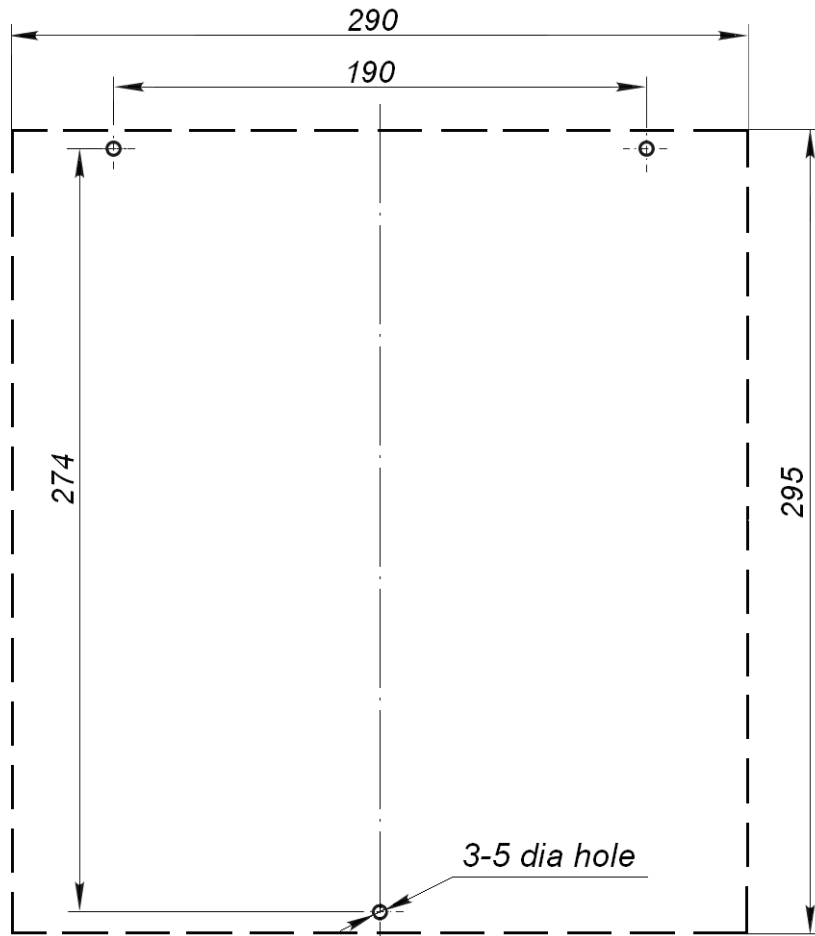

Figure 9. Hole pattern for the CU mounting
5. Take the swing panel (3) out of the transportation box. Mount the swing panel into the coupling fittings (14) on the rotary post (1). Tighten the mounting screws through the coupling fittings' holes with the S5 hex-nut wrench. Check the swing panel (3) to be properly fixed.
6. Check the rotation of the swing panel. To do so unlock the swing gate with the mechanical release key (7) (see Section 10.1). The swing panel should be able to turn by hand easily in either direction. Put the swing gate into a reset position and lock it with the key after the check.
7. Mark out the holes for wall mounting of the CU (8) as shown on Fig. 9. Drill the holes and insert the plastic dowels included in the delivery set. Mount the CU (8) using two upper screws and fix it with the bottom screw to prevent accidental pulling off.